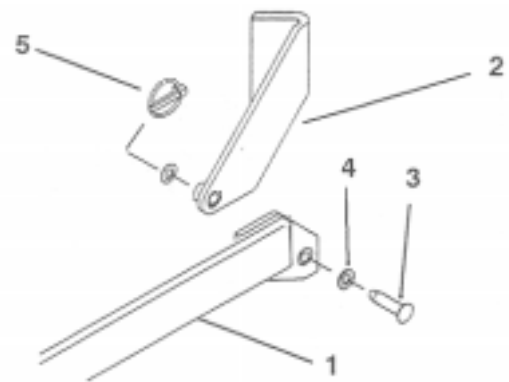

Figure 10
3. Connect the rear of the lift arm to the mounting bracket with a mounting pin, 2 thrust washers, and a klic pin (Fig. 10).
2. Remove the klic pins, thrust washers, and mounting pins that connect the lift arms to the mounting brackets (Fig. 10).